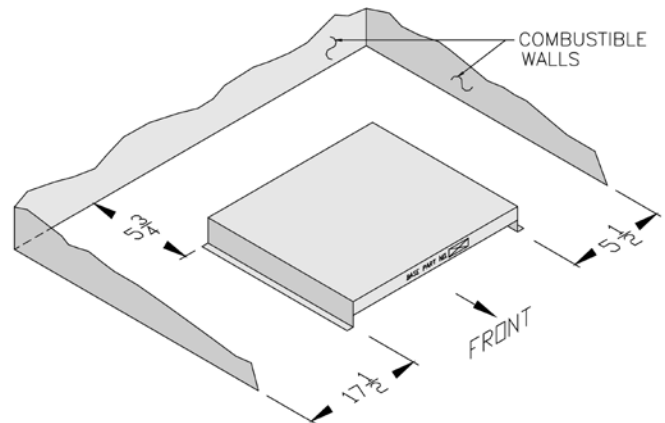

Figure 3: Special Base Installation
2. Position base to provide minimum clearances to combustible walls. See Figure 3. Secure in place.